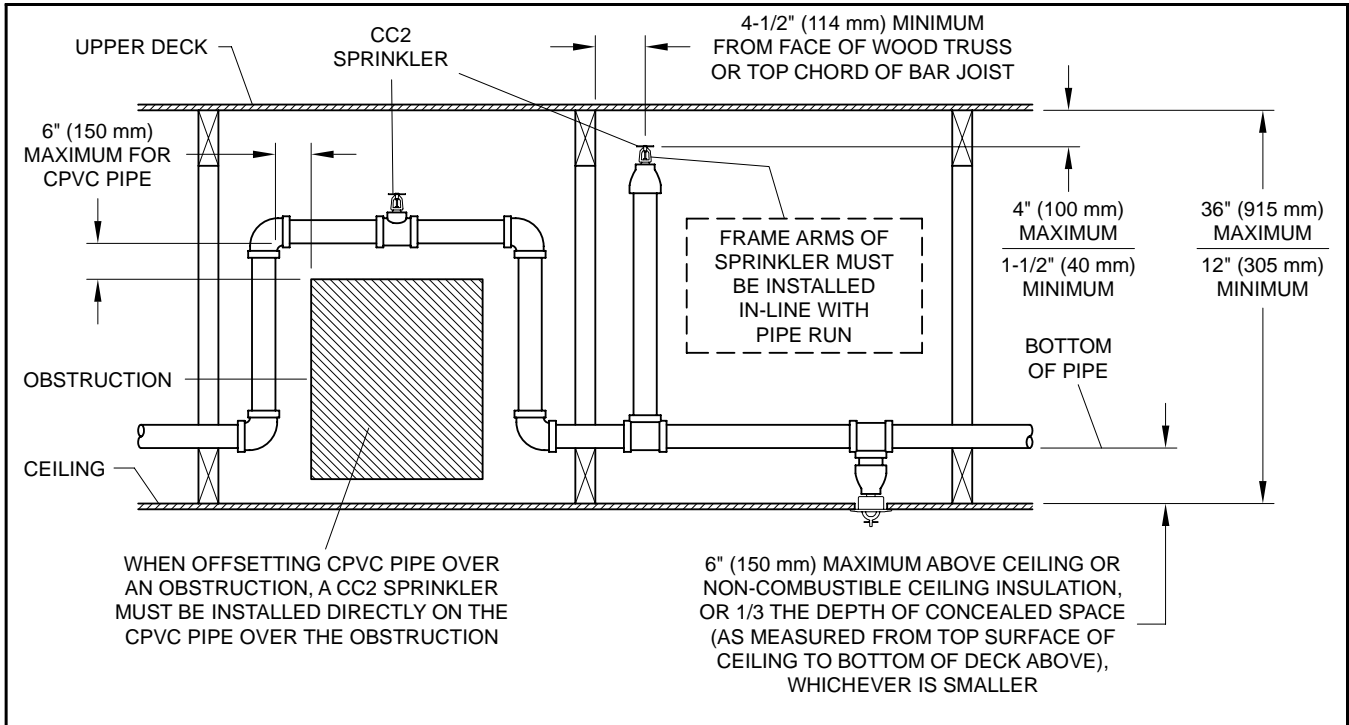

FIGURE 2
- Wood truss construction or bar joist construction (Fig. 2).
The area of the concealed space is not limited; however, for both Fig. 2 and Fig. 3, where CPVC pipe is being utilized, draft-curtains or full height walls must be provided at 1000 ft² (93 m²) areas. This draft curtain shall be at least 1/3 the depth of the concealed space or 8 inches (200 mm), whichever is greater, and be constructed using a material that will not allow heat to escape through or above the draft curtain.
1-1/2 to 4 inches (40 to 100 mm) below upper deck for wood truss construction or bar joist construction (Fig. 2).
Only BlazeMaster CPVC product may be used in concealed spaces requiring automatic sprinklers, when used in conjunction with Model CC2 Sprinklers. In order to use the BlazeMaster CPVC product for wood truss or bar joist construction, the horizontal run of pipe must be a maximum of 6 Inches (150 mm) above the ceiling or non-combustible ceiling insulation, or 1/3 the depth of concealed space (as measured from the top surface of the ceiling to the bottom of the deck above), whichever is smaller (Fig. 2). For insulation filled solid wood or composite wood joist construction, the horizontal run of pipe must be a maximum of 6 Inches (150 mm) above ceiling or non-combustible ceiling insulation, or 1/3 the depth of concealed space (as measured from the top surface of the ceiling to the bottom surface of the joist insulation above), whichever is smaller (Fig. 3). The CPVC piping can then be used to supply the Model CC2 Sprinklers, as well as the sprinklers below the ceiling. Unless modified by this Technical Data Sheet, all other guidelines of the
Where the CPVC must be offset up and over an obstruction and the pipe exceeds the allowed horizontal positioning requirements specified above as well as shown in Figure 2 and 3, additional Model CC2 Sprinklers are to be installed as shown in Figure 2 and 3 to protect the BlazeMaster CPVC product.
The CC2 Sprinklers are to be installed upright and with their frame arms (ref. Figure 2, 3, 4, 5, or 6 as applicable) in-line with the pipe run.